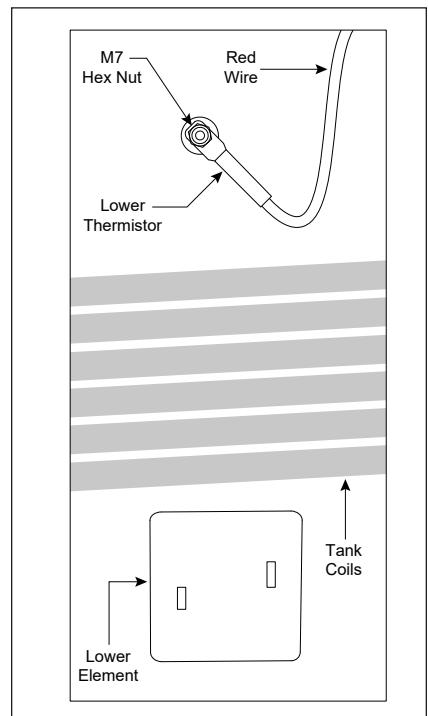

Figure 94 - Lower Thermistor Exposed
**NOTICE:** The lower thermistor will be located above the lower element as shown in Figure 94.